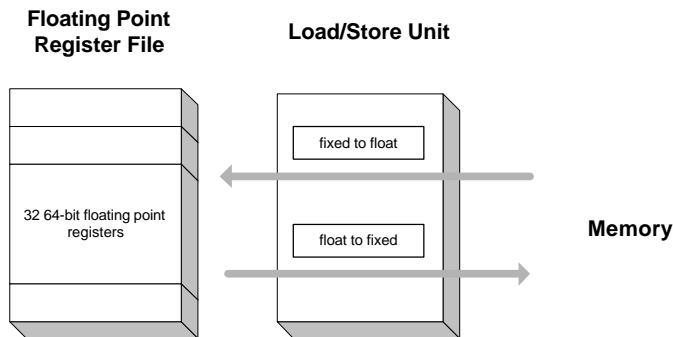

Figure 6 Floating/fixed point conversions
- Figure 6 Floating/fixed point conversions7